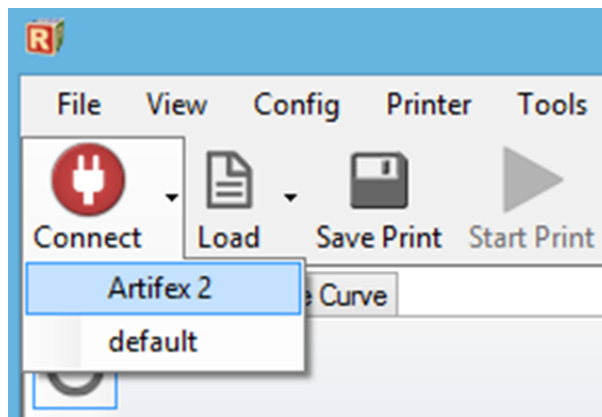
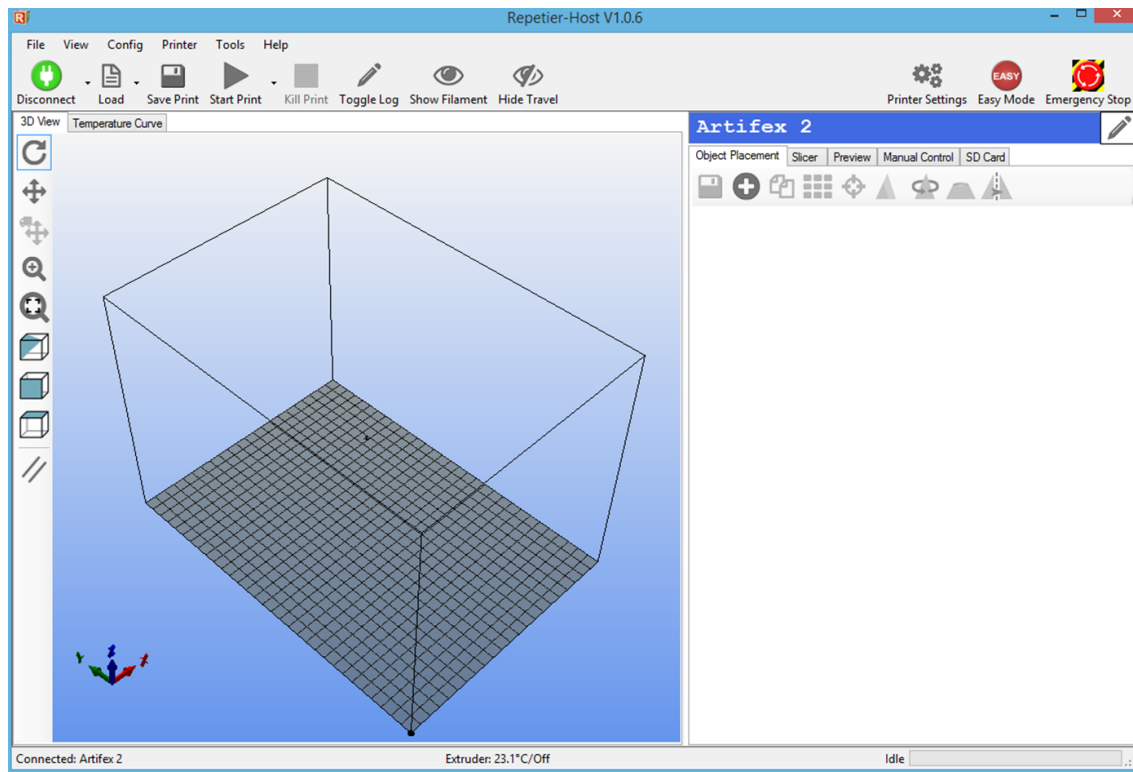

Figure 2.26: Connecting with Artifex 2 3D Printer
Figure 2.27: The Repetier-Host connected with Artifex 2 3D Printer
- Click the drop-down arrow next to the “Connect” button, and select “Artifex 2” (Figure 2.26). The Repetier-Host is now connected with your Artifex 3D Printer, as confirmed by the message shown on the bottom status bar (Figure 2.27).